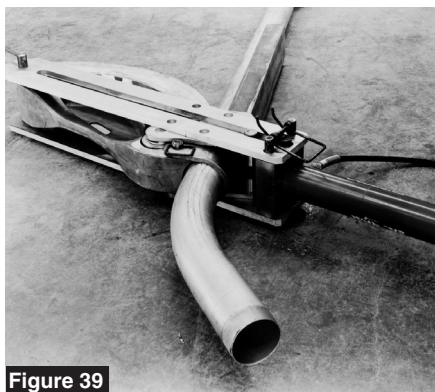

Figure 39
- A. To bend the offsets, proceed to bend in the normal manner covered above until the desired bend is reached. See Figure 39.